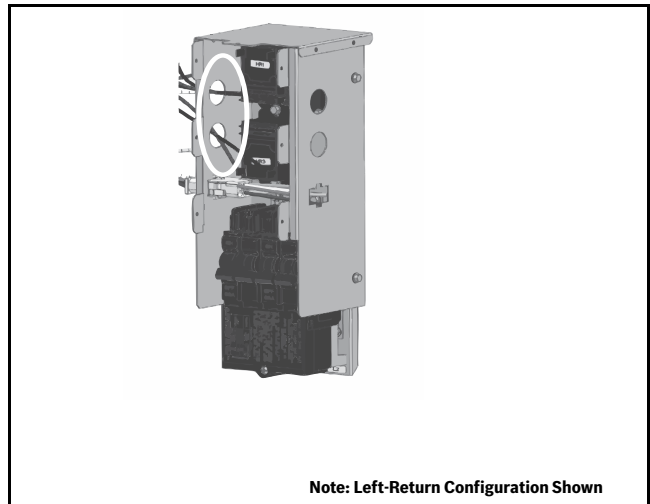

Fig. 33 Route the Red/Black Wire Pairs through the Side Holes
3. Locate the red/black (conduit protected) elements wires and route the wires through the holes of the e-heat control box. Be sure to make note of the different wire pairs—each relay has one black and one red wire. (→Refer to Fig. 33.)